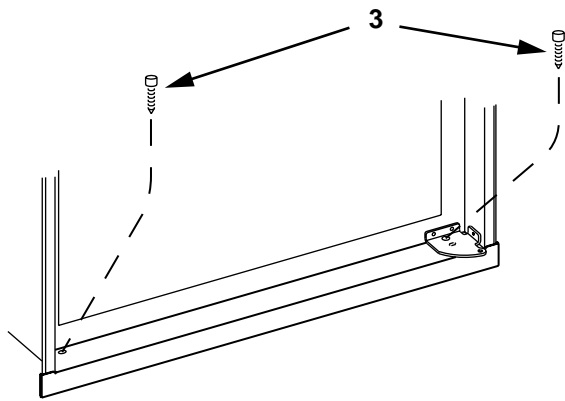

FIG. 6
2. Once the lower front strip is slipped under the hinge, the part is possible to swing into place as shown in FIG. 6.
One screw through the hinge, and on the opposite side one screw through the lower front strip. (FIG. 6).